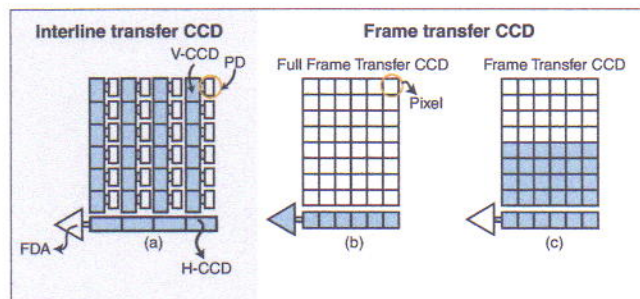

Fig. 1 Three types of CCD structure
The structure of an IL-CCD is shown in Figure 1(a). The interline CCD has vertically paired columns consisting of imaging Photodiodes (PD) and a readout register, sometimes called the Vertical charge transfer register (V-CCD). Electrons generated by incoming photons in each PD are shifted simultaneously to the adjacent V-CCD register. The V-CCD register is covered by a mask of aluminum or other opaque mate-